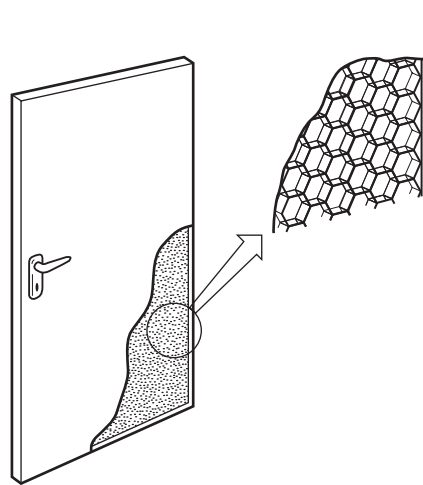

Fig. 9
- (b) Fig. 9 shows a cutaway view of an internal door that has a cellular filling.